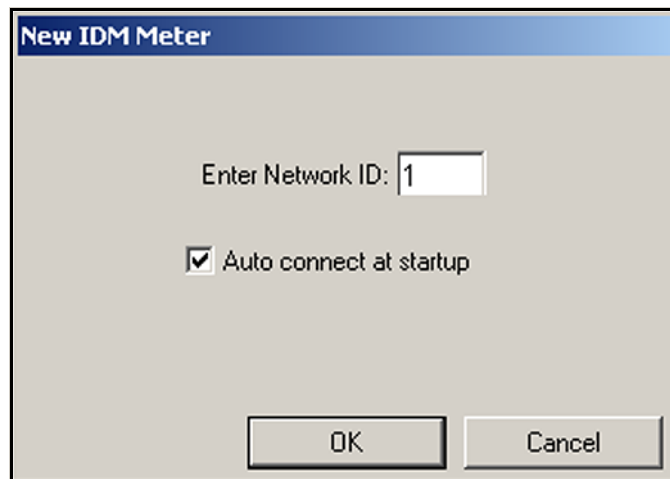

Figure 21: New IDM Meter Screen
4. The "New IDM Meter" screen (shown in Figure 21 below) opens. Enter the *Network ID* number for the meter, and click [OK].